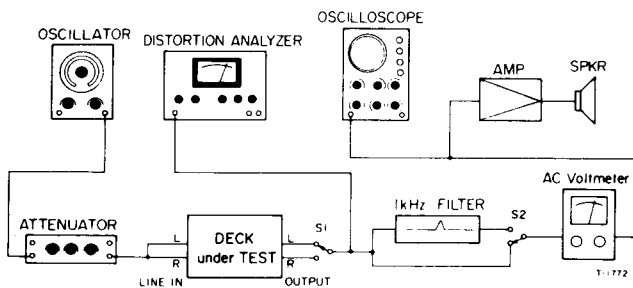

Fig. 3-2 Basic connection
| 1. MONITORoutputlevel | 1-1                                                                                | Fig. 3-2             | MIC cont: MINLINE cont: MAXOUTPUT cont: MAX | 400 Hz/−22 dB(61.5 mV) | R123/R223                                                                                                                        | +1 dB (0.869 V) | LINE min. inputlevel                       |
| 2. VU meter                                                                                          | 2-1 Fig. 3-2                      | LINE cont:Spec. position (1-3)                  | 400 Hz/-12 dB(195 mV) | R131/R231            | 0 VU on VU meter                     |                      |
| 3. MIC input level                                                                                   | 3-1 Fig. 3-2 butLINE IN → MIC | MIC cont: MAXLINE cont: MIN                     | 400 Hz/-70 dB(245 μV) | Check                | -5 dB ±2 dB(346 mV to 548 mV)    | MIC min. input level |
| 6. Playback level        | 6-1 Fig. 3-2 | SPEED: HIGHTAPE SELECT. (R): LH (I, II)                       | FWD                         | YTT-1003(400 Hz/0 dB)                | R111/R211                                    | -5 dB (436 mV)                    |
| 7. Frequency response | 7-1 Fig. 3-2 | FWDTAPE SELECT.(R): LH (I, II)                                                                            | HIGH             | YTT-1003                    | R116/R216 | Fig. 3-6                                                                                                                                                                                                                                          |
| 8. Signal-to-noise    | 8-1 Fig. 3-2 | FWD and REVHIGH and LOWLH (I, II) and EEUse fully-erasedtape (Use bulktape eraser)        |                  | YTT-8013andYTT-8053 | Check     | LH (I, II){ HIGH: 49 dB{ LOW: 47 dBEE{ HIGH: 51 dB{ LOW: 49 dB• Ratio of spec. OUTPUT signal (–5 dB) to inherent noise level• Change-over of AC line plug polarity. The worse reading should be within specification. |
|                                      | 9-2  | Fig. 3-2                                                     | "                                                        |      | —                                 | L101/L201                    | Min. reading [–40 dB or more (7.75 mV or less)]                                                |         |
| 10. Record bias (LH II)              | 10-1 | Fig. 3-2                                                     | Test tape: YTT-8013SPEED sw.: LOWBias/EQ: LH II  |      | 7 kHz/–32 dB (19.5 mV)            | Azimuth adjust screw of head | Maximum output level                                                                           |         |
|                                      | 10-2 | Fig. 3-2                                                     | "                                                        |      | "                                 | C141/C241                    | Over bias value 2 dB ~ 4 dB (from peak)                                                        |         |
| 11. Record level (LH II)             | 11-1 | Fig. 3-2                                                     | Test tape: YTT-8013SPEED sw.: HIGHBias/EQ: LH II |      | 400 Hz/–12 dB (195 mV)            | R158/R258                    | –5 dB (436 mV)                                                                                 |         |
| 12. Frequency response (LH I, LH II) | 12-1 | Fig. 3-2                                                     | YTT-8013Bias/EQ: LH II                               | HIGH | Required signal/–22dB (61.5mV)    | L102/L202                    | Fig. 3-8                                                                                       |         |
| 13. Record bias (EE)                 | 13-1 | Fig. 3-2                                                     | Test tape: YTT-8053SPEED sw.: LOWBias/EQ: EE     |      | 7 kHz and 400 Hz/–32 dB (19.5 mV) | C142/C242                    | Nearly equal output level at both frequencies                                                  |         |
| 14. Record level (EE)                | 14-1 | Fig. 3-2                                                     | Test tape: YTT-8053SPEED sw.: HIGHBias/EQ: EE    |      | 400 Hz/–12 dB (195 mV)            | R159/R259                    | –5 dB (436 mV)                                                                                 |         |
| 15. Frequency response (EE)        | 15-1 | Fig. 3-2                              | YTT-8053Bias/EQ: EE                                    | HIGH | Required signal/-22 dB(61.5 mV)                        | L103/L203            | Fig. 3-8                                                                                  |                                                                                                        |
| 16. Signal-to noise ratio          | 16-1 | Fig. 3-2                              | YTT-8013 and YTT-8053HIGH and LOWLH (II) and EE    |      | 1 kHz/-12 dB(195 mV)thenno-signal recording        | Check                | LH II{ HIGH: 47 dBLOW: 45 dBEE{ HIGH: 48 dBLOW: 46 dB                 | Ratio of specifiedOUTPUT signal(-5 dB)to inherentnoise level                               |
| 17. Erase efficiency               | 17-1 | Fig. 3-2Switch ON 1 kHzfilter | Test tape: YTT-8053SPEED sw.: HIGHBias/EQ: EE      |      | 1 kHz/-2 dB(615 mV, +10VU) thenno-signal recording | Check                | OUTPUT: -65 dBor more(436 $\mu$ V or less)(70 dB min.ratio)               | Ref. OUTPUT level:+5 dBThe worst valueshould be withinspecification.                   |
| 18. RECMUTEfunction        | 18-1 | Fig. 3-2Switch ON 1 kHzfilter | Test tape: YTT-8053SPEED sw.: HIGHBias/EQ: EE      |      | 1 kHz/-2 dB(615 mV, +10VU) thenrecord muting       | Check                | OUTPUT: -60 dBor more(0.775 mV or less(65 dB minratio)                    | Ref. OUTPUT level:+5 dBThe worst valueshould be withinspecification.                   |
| 19. Channelseparation          | 19-1 | Fig. 3-2Switch ON 1 kHzfilter | Test tape: YTT-8053SPEED sw.: HIGHBias/EQ: EE      |      | L: 1 kHz/-12 dB(195 mV)R: No signalrecord.         | Check                | R: -55 dB ormore(1.38 mV or less)(50 dB min. ratio)                           | Find the differencebetween the 1 kHzrecorded portionand the no-signal-recorded portion |
| 20. Adjacenttrackcrosstalk | 20-1 | Fig. 3-2                              | Same as 19-1                                               |      | 125 Hz/-12 dB(195 mV)                                      | -                    | -                                                                                         |                                                                                                        |
| 21. Distortion                     | 21-1 | Fig. 3-2                              | YTT-8013 and YTT-8053SPEED sw.: HIGHLH (II) and EE |      | 1 kHz/-12 dB(195 mV)                                       | Check                | 1.0% or lessw/ LH (II)1.5% or lessw/ EE                                       |                                                                                                        |